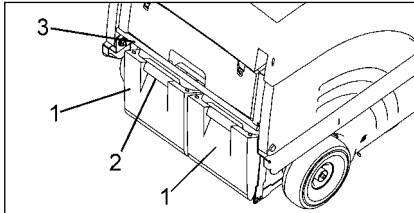

Fig.11
- Fold bow (Fig. 11/3) up = the dirt hoppers (Fig. 11/2) are lowered.
- Use the recessed grip (Fig. 11/1) of one of the hoppers to lift it lightly and extract it.
- Re-insert dirt hopper (Fig. 11/2) and fold down the bow (Fig. 11/3).